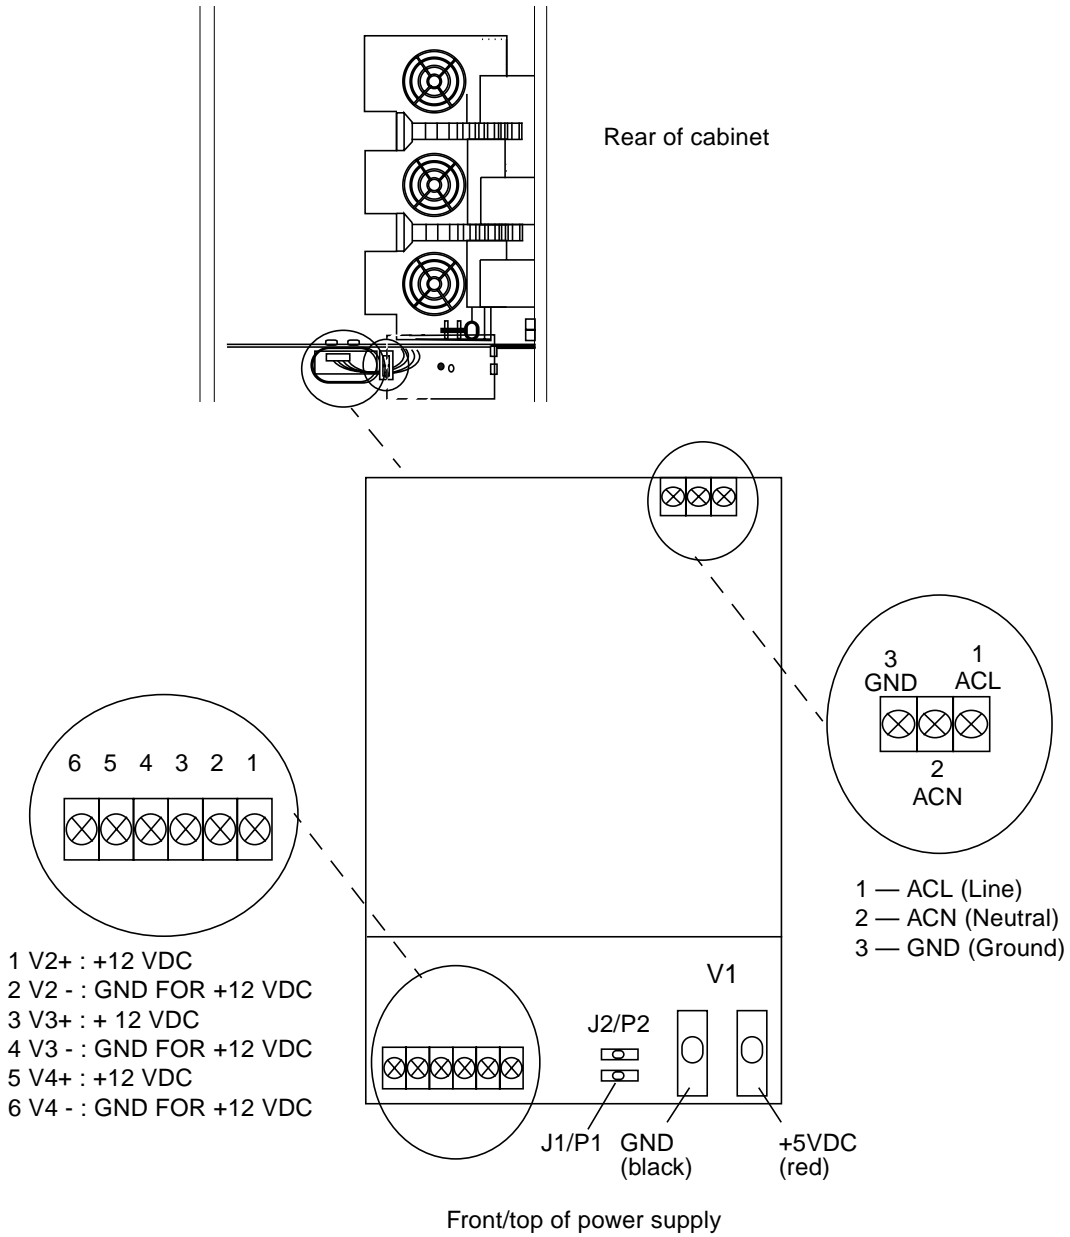

FIGURE 6-25 Linear Actuator Device/SCSI Expander Power Supply
1. **Unscrew the terminals from the power supply, located as shown in FIGURE 6-25.**